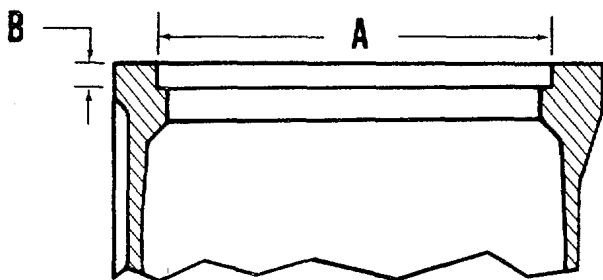

Figure 16C-3. Cylinder Liner Counterbore Dimension Location
CYLINDER LINER COUNTERBORE. Inspect the upper liner counterbore and remove the sharp edges and dirt so that the liner will enter without distortion (A), Figure 16C-3. If the counterbore exceeds limits listed in Table 16C-1 (2), mark the blocks for counterbore repair. The counterbore edge must be smooth and square with the liner bore to within 0.005 inch (0.13 mm) total indicator reading. Use a straight edge to check the flatness of the top of the block. Refer to "Top Surface Refinishing".